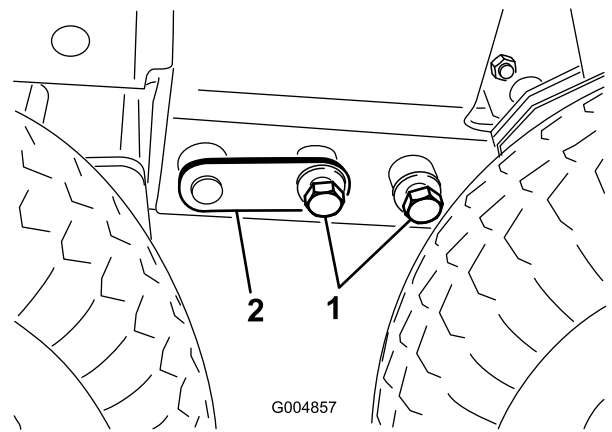

Figure 50
10. Adjust the floor jack as required to install the bolts (3/4 inch) on each side (Figure 50). Torque the bolts to 359 N-m (265 ft-lb).